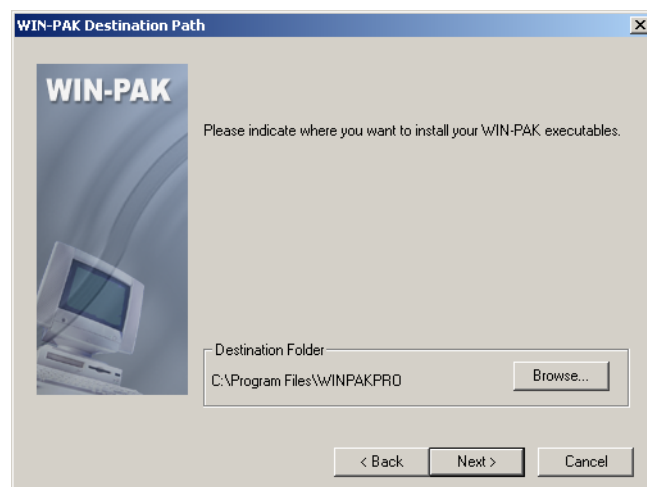

Figure 2-21 *Select Destination Path*
1. On the **WIN-PAK Setup Type** dialog box, select **User Interface Only** and click **Next**. The system checks for SQL Service status and displays the screen shown in Figure 2-21.